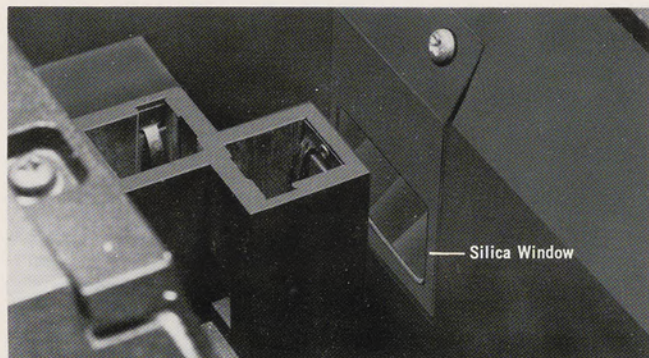

Figure 8. Silica Windows Installed in Sample Compartment
2. Attach windows to sample compartment walls, as shown in Figure 8, using screws provided.